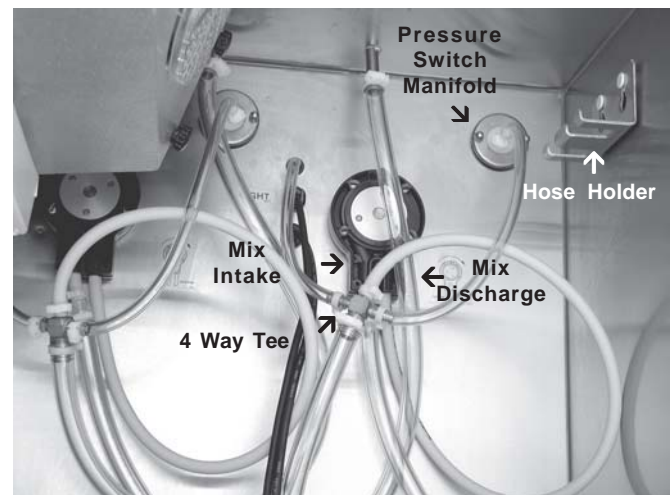

Figure 15. Mix Pumps
- A. **Mix Operation:** The peristaltic mix pump contains one continuous mix pump hose. When looking at the face of the peristaltic mix pump, the left side of the hose is the suction or pickup. The right side of the hose is the discharge. Mix is drawn up the suction side of the hose and transferred thru the discharge side to the freezer. Figure 15.